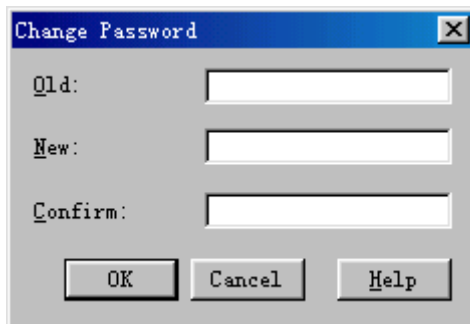

Figure 7-6 Change Password dialog box
- 1) In the NodeB O&M system, select **System** -> **Change Password** to display the **Change Password** dialog box as shown in Figure 7-6.